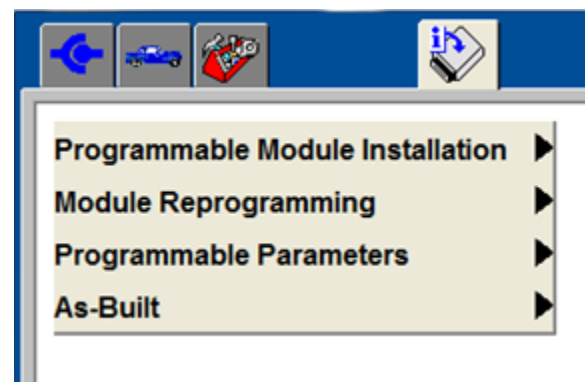

Figure 2
- **When selecting the Module Programming Menu (figure 2) you will see 4 tabs**